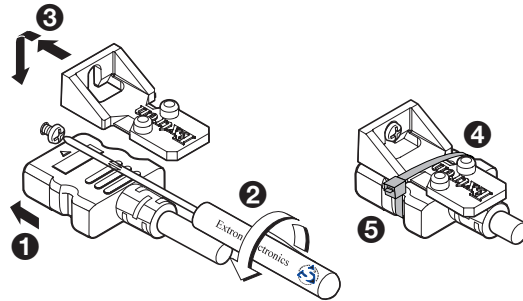

Figure 16. Installing the LockIt Cable Lacing Bracket
1. Plug the HDMI cable into the panel connection (see figure 16, **1**).